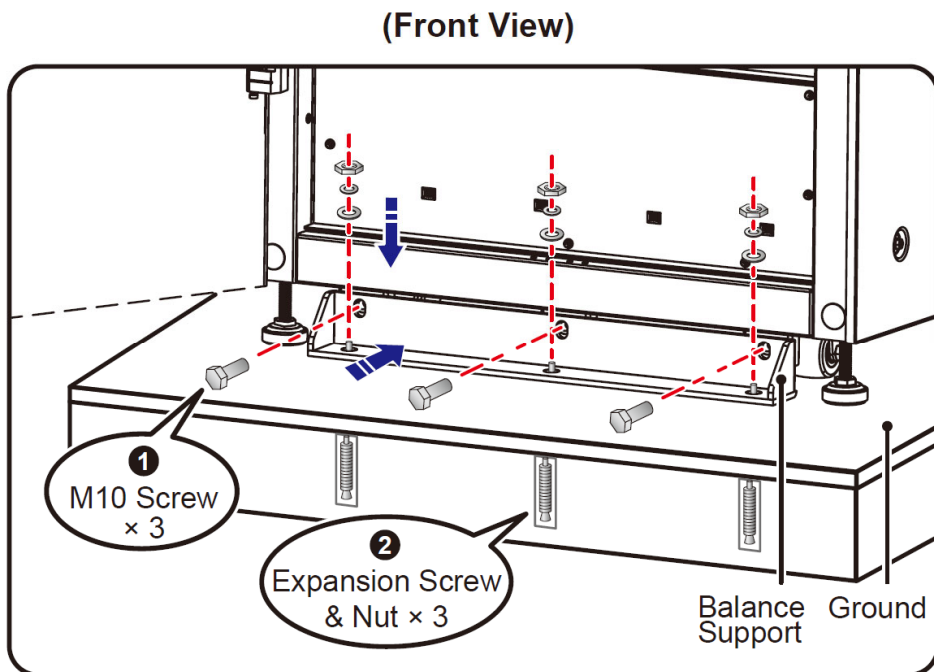

Figure 7: balance support installation_ front of the battery cabinet
- (1) Before fixing the Battery Cabinet in a designated installation area, please double-check whether the area's floor weight loading is sufficient to bear the Battery Cabinet, UPS and handling equipment (i.e. forklift) to avoid accidents. For Battery Cabinet floor weight loading information, please refer to **Table 1**.
- (2) After the Battery Cabinet is moved to the designated installation area, use an 11/16" (17 mm) socket wrench to stabilize the Battery Cabinet's four leveling feet on the floor. Please note that the Battery Cabinet must stand on the floor stably and levelly without any tipping.
- (3) Use an 11/16" (17 mm) socket wrench and three M10 screws (originally used to fix the front balance support on the pallet) to install the front balance support (removed during the unpacking process) at the front of the Battery Cabinet. Use the three expansion screws and nuts (provided by service personnel) to fix the front balance support on the ground to avoid Battery Cabinet movement. Please see **Figure 7**.